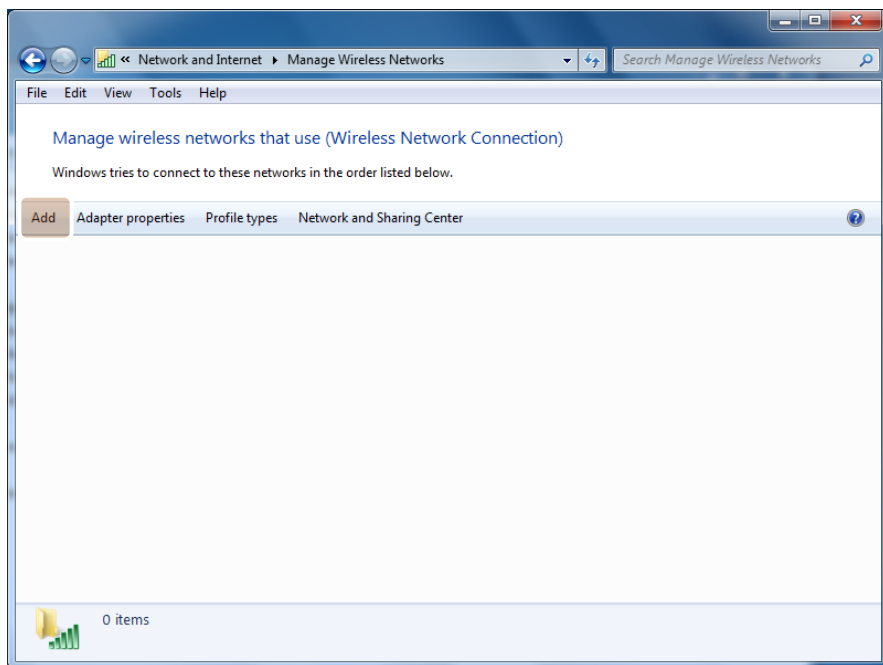

Figure 28
14. Click the **Add** button (see highlighted box in Figure 28 below).